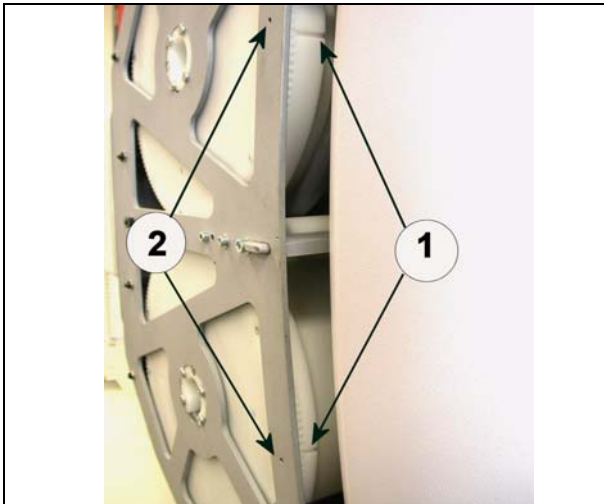

Fig. 1
- Turn the C-arm orbitally so that the markings (1/Fig. 1) are centered on the threaded holes (2/Fig. 1). The cable drums are in center position.
- Change the position of the cable module's locking screw from position (1/Fig. 1) back to position (2/Fig. 1) and tighten it.